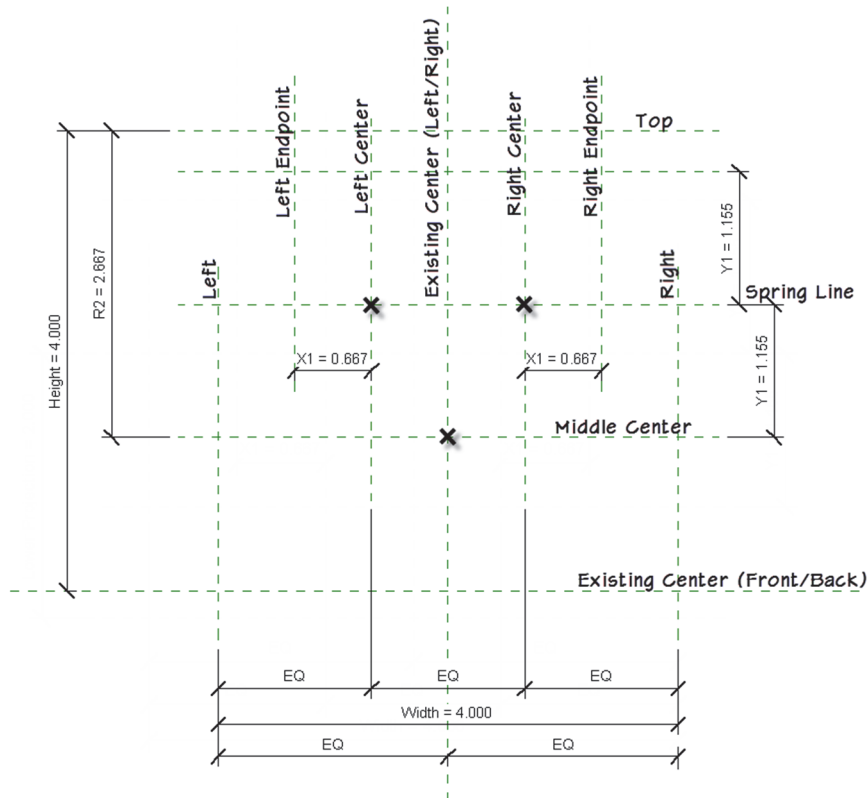

FIGURE 4.52
- ⇒ Add dimensions as shown in Figure 4.52.